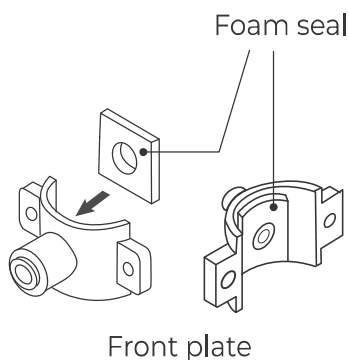

Figure 8
- a. Stick the foam seal on the front plate of the drain saddle. Ensure that the hole of the foam seal is aligned with the hole of the front plate (**Figure 8**).